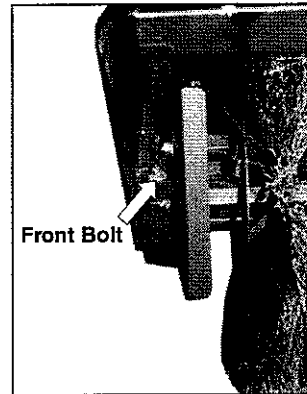

figure 23
1. Remove the front bolt from inside the right-hand side of the brush frame. This allows you to remove the shield and right mounting bracket (figure 23).